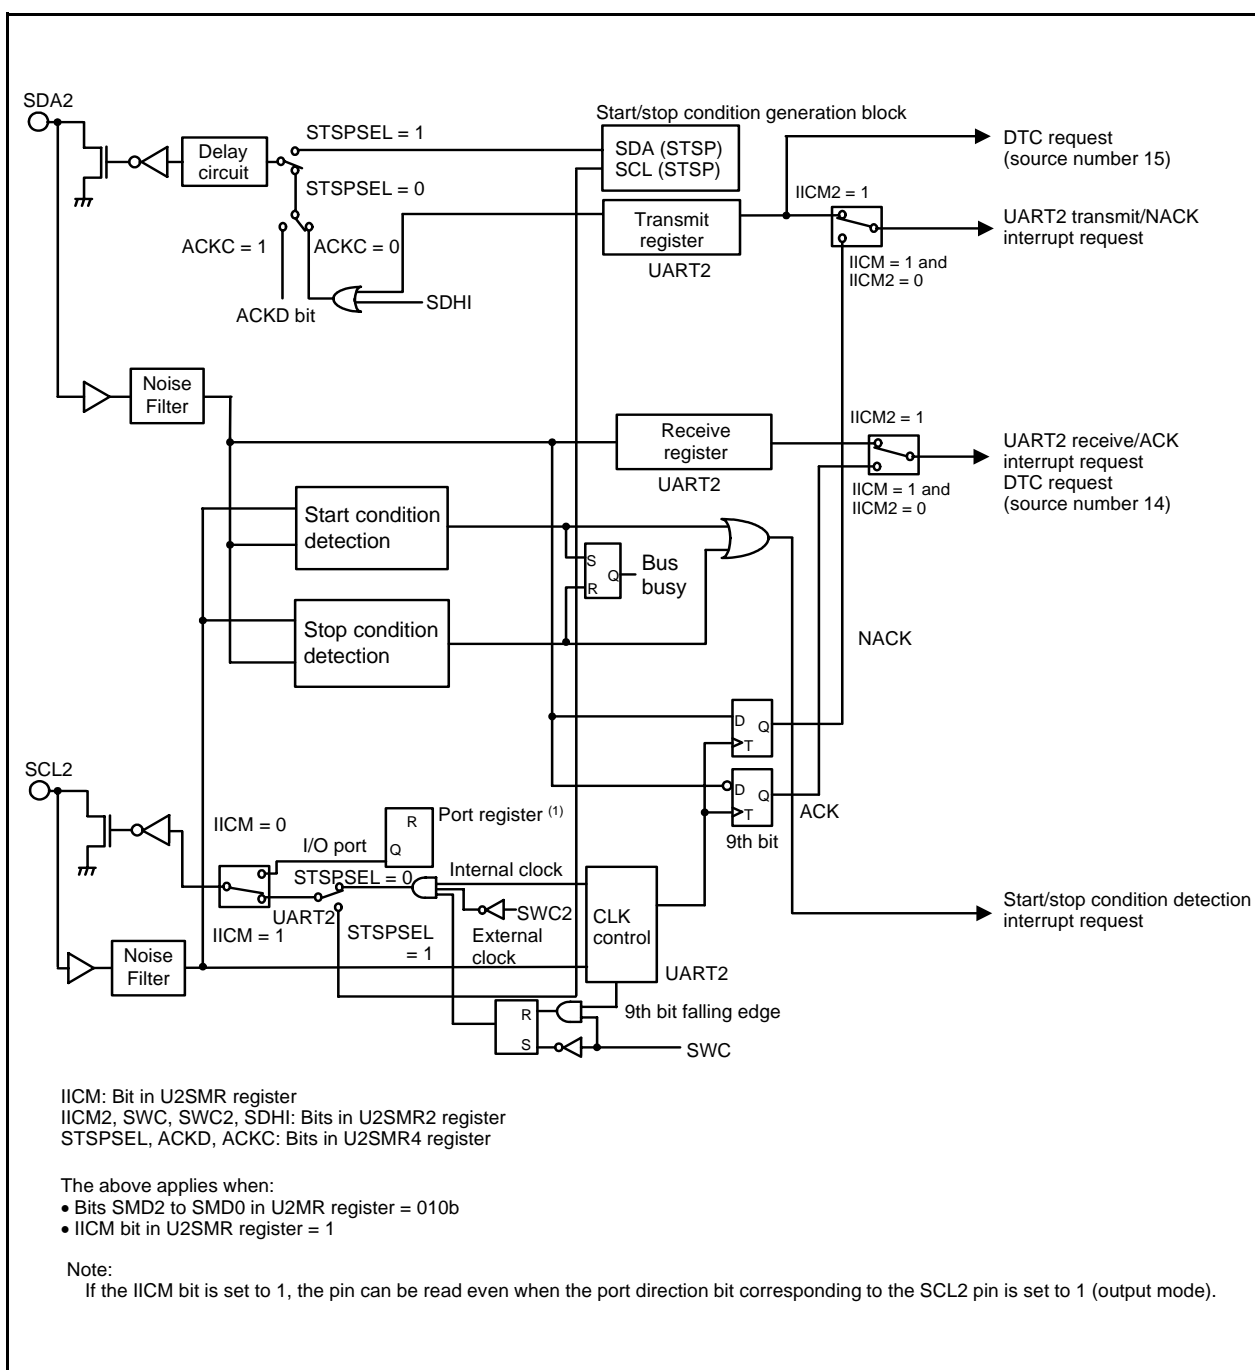
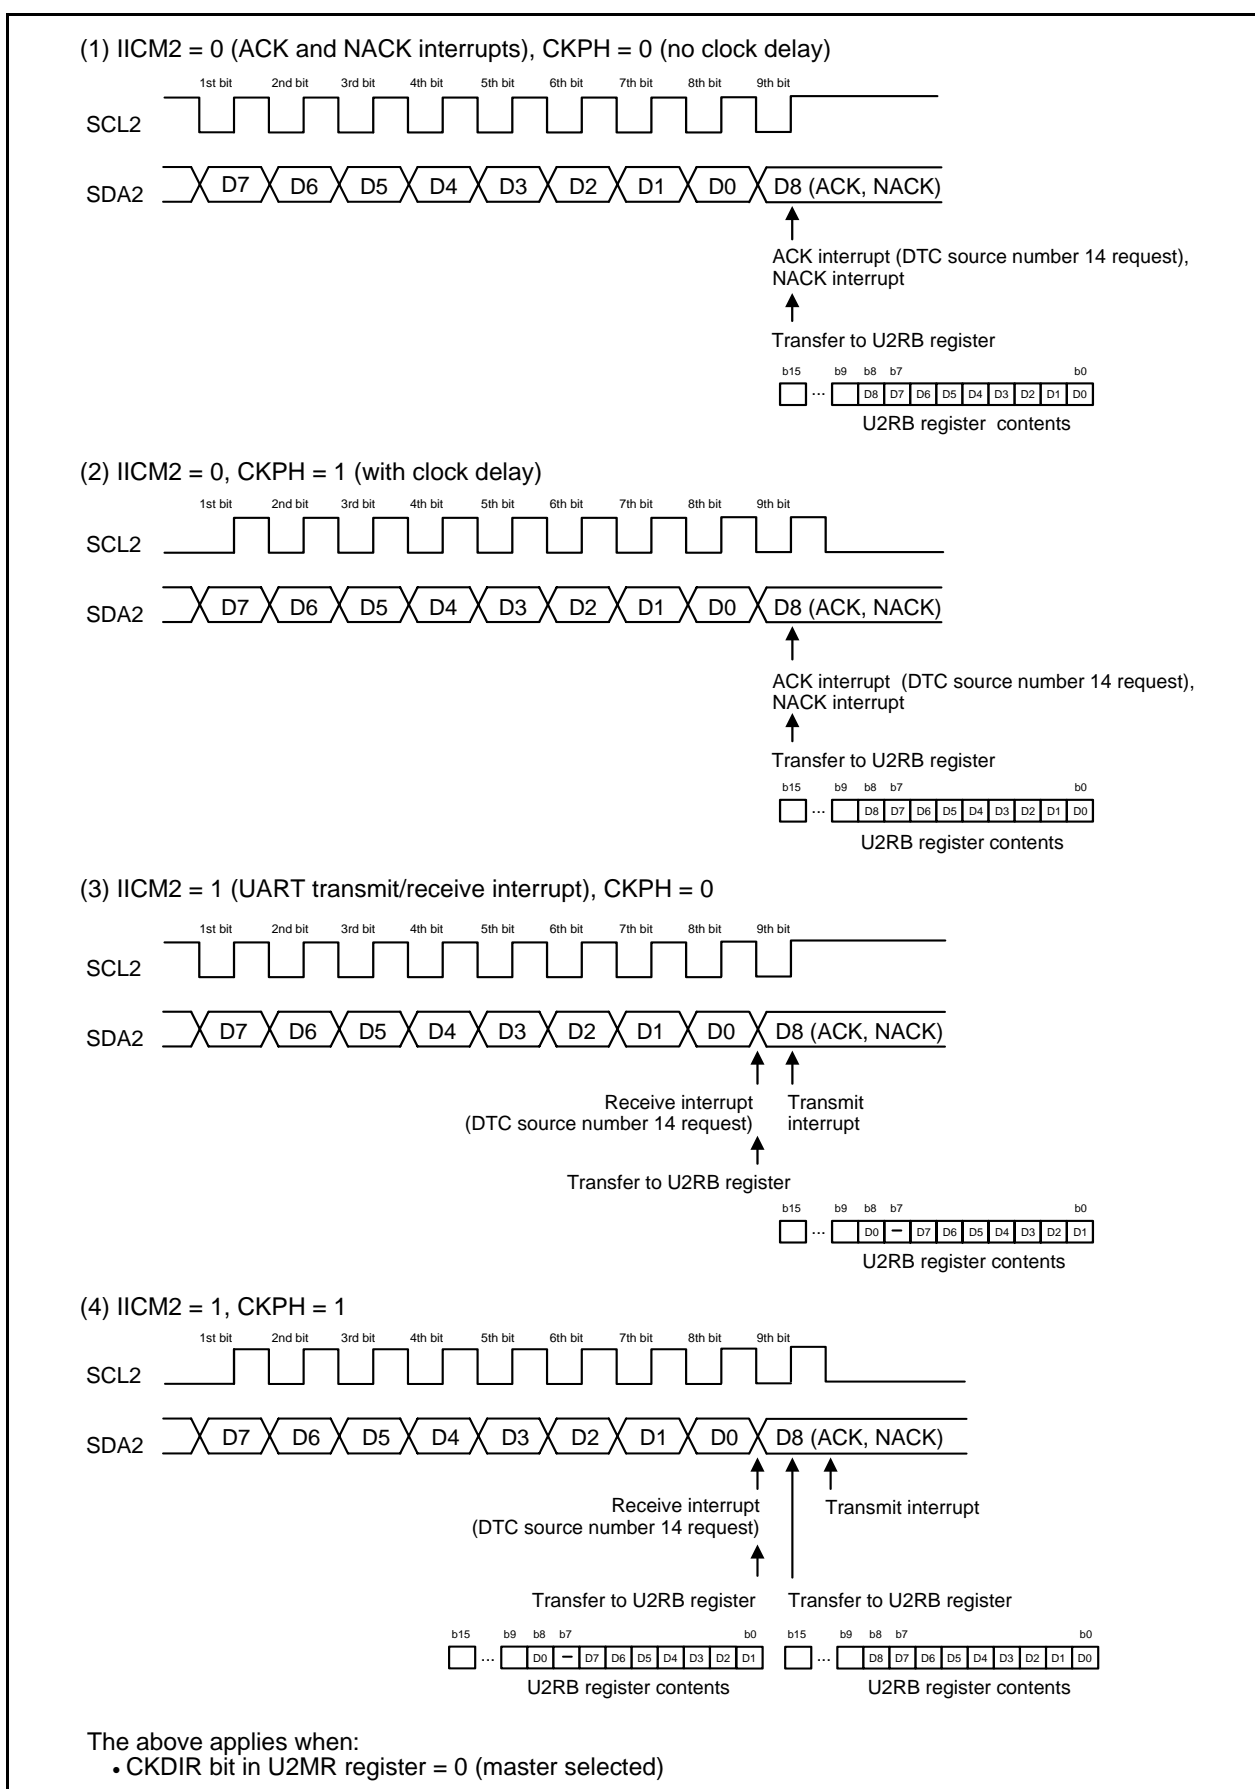

Figure 25.13 I2C Mode Block Diagram
Figure 25.14 Transfer to U2RB Register and Interrupt Timing
I²C mode is provided for use as a simplified I²C interface compatible mode. Table 25.9 lists the I²C Mode Specifications. Tables 25.10 and 25.11 list the registers used in I²C mode and the settings. Table 25.12 lists the I²C Mode Functions, Figure 25.13 shows an I²C Mode Block Diagram, and Figure 25.14 shows the Transfer to U2RB Register and Interrupt Timing.
6. Refer to **Figure 25.14 Transfer to U2RB Register and Interrupt Timing**.
The transfer clock is used to transmit and receive data as is shown in **Figure 25.14 Transfer to U2RB Register and Interrupt Timing**.